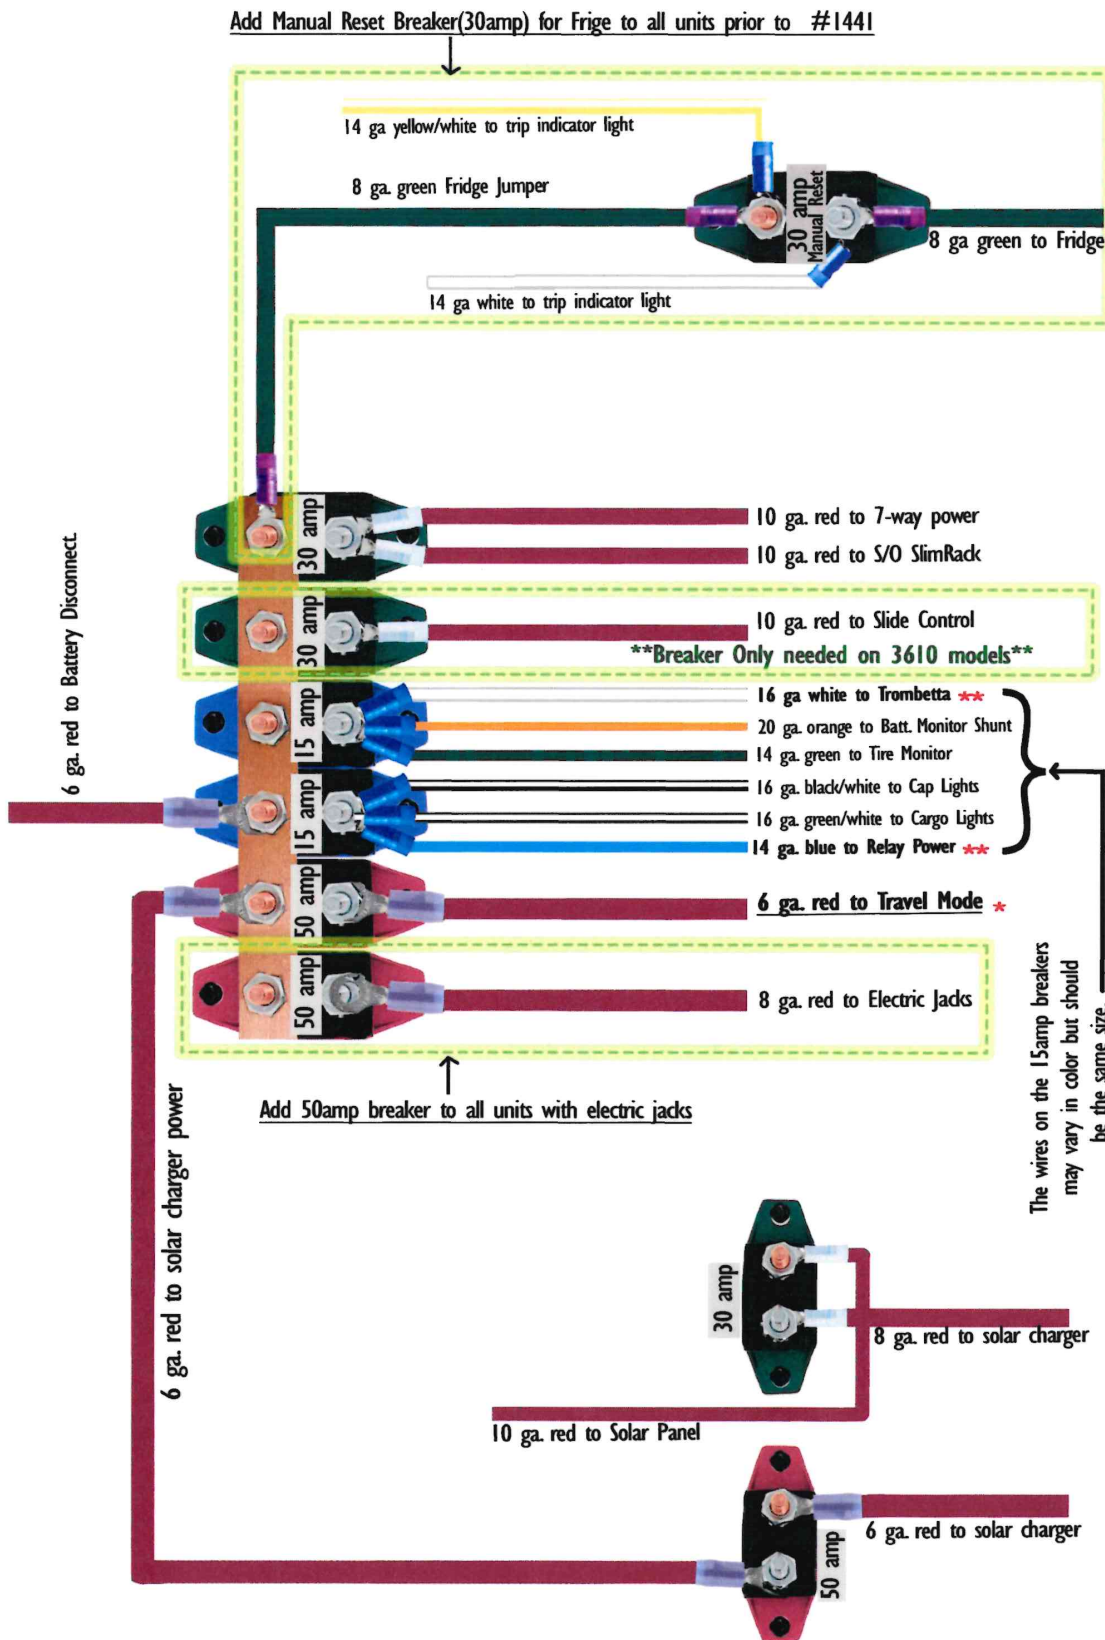

Figure 11
21. Repair complete (reference Figure 11 - final diagram on the final page).